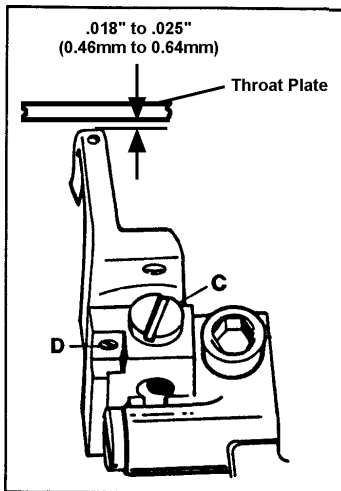

FIG. 13
A clearance of .018" to .025" (0.46mm to 0.64mm) should be maintained between the top of the looper and the bottom of the stitch tongue. Loosen screw (C, Fig. 13) and turn screw (D), directly under the looper, up or down as required. Make sure the looper is seated and tighten screw (C). Check for clearance.